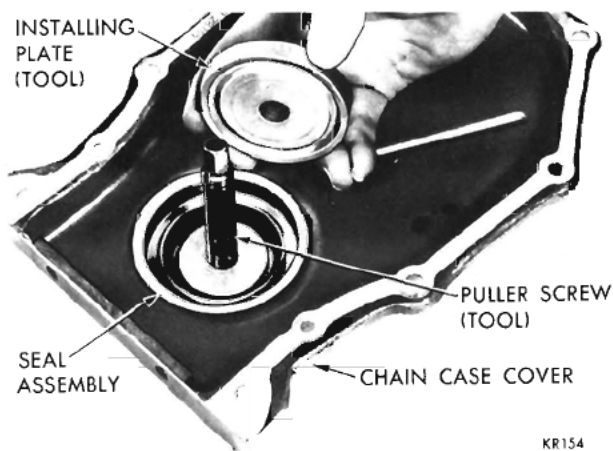

Fig. 91—Positioning Installer Plate on New Seal Tool C-3506
(1) Insert the puller screw through the removing and installing plate so that the thin shoulder will be facing up.
(2) Insert the puller screw with plate through the seal opening (inside of chain case cover facing up).
(3) Place the seal in the cover opening, with neoprene down. Place the seal installing plate into the new seal, with protective recess toward lip of seal retainer (Fig. 91).